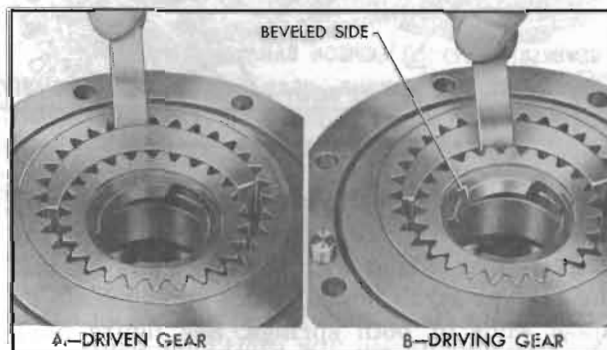

Figure 5-67—Checking Clearance Between Crescent and Gears
7. Insert feeler gauge between crescent and driven gear to check clearance, which should be .005" to .009" on front pump and .0045" to .007" on rear pump. See figure 5-67, view A.
8. Insert feeler gauge between crescent and driving gear to check clearance, which should be .010" to .016" on front pump and .006" to .012" on rear pump. See figure 5-67, view B.
3. Lubricate and install gears in front pump body. The driving gear must be installed with the beveled side outward so that this side will be against the cover when pump is installed. See figure 5-67. *Reversing this gear in pump body will result in severe damage to the transmission.*